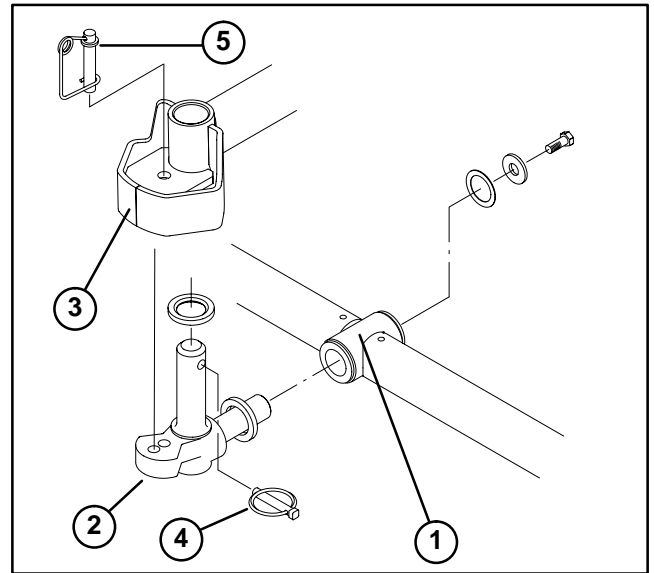

Figure 51
6. Insert a thrust washer onto horizontal shaft of pivot knuckle as shown in figure 51.
7. Insert the horizontal shaft of the pivot knuckle into the mounting tube of the carrier frame (Fig. 51).
8. Secure pivot knuckle to carrier frame with a thrust washer, flat washer and a flange head capscrew (Fig. 51).
9. Insert a thrust washer onto vertical shaft of pivot knuckle (Fig. 51).
10. Insert the vertical shaft of the pivot knuckle into lift arm pivot hub (Fig. 51). Guide the pivot knuckle in place between the two rubber centering bumpers in the under side of the lift arm steering plate.
11. Insert the lynch pin into the cross hole on the pivot knuckle shaft (Fig. 51).
17. If fixed cutting unit position is required, insert steering pin into pivot knuckle mounting hole (Fig. 51)
18. Hook spring wire around bottom of steering pin (Fig. 51).